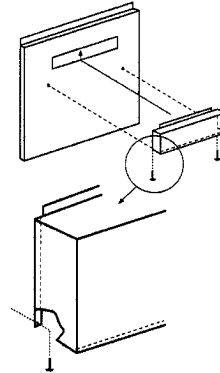

Figure 6. Fresh Air Hood Installation
1. Cut and remove insulation on the inside of the lower front access panel in the shape of the rectangular opening. See Figure 6.